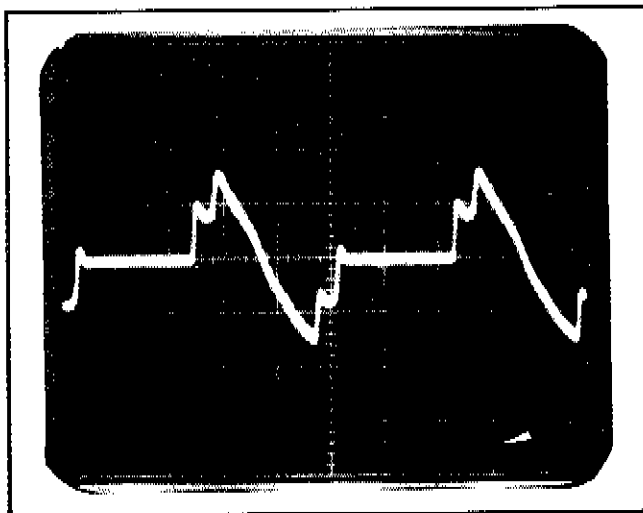

Figure 4-8. LED Loop Current Waveform
- g. Adjust C162 LED LOOP BANDWIDTH so that the current channel waveform is 30 mA p-p between the positive and negative peaks. The waveform should appear as shown in Figure 4-8.